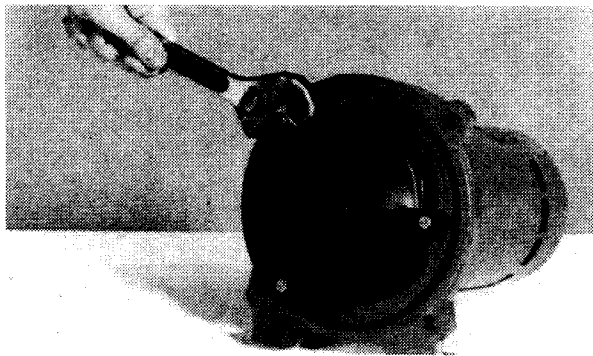

Fig. 1
4. Remove diffuser plate bolts and take off diffuser. (Fig. 1) When replacing diffuser, use three .010" thick shims equally spaced between impeller eye and diffuser to prevent impeller rubbing diffuser and bindings.